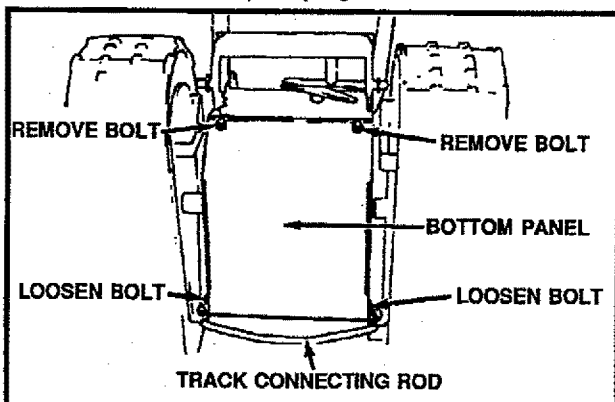
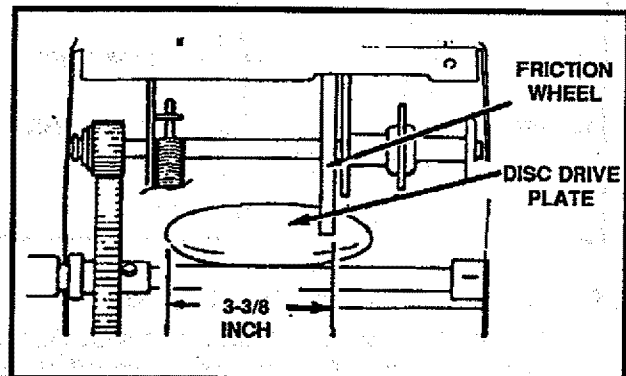

FIG. 31
FIG. 32
- Remove the bottom panel (See Fig. 31).
- Position the shifter lever in first (1) gear.
- Note the position of the friction wheel on the disc drive plate. The right side of the friction wheel should be $3-3/8$ " from the left outer side of the disc drive plate (See Fig. 32).